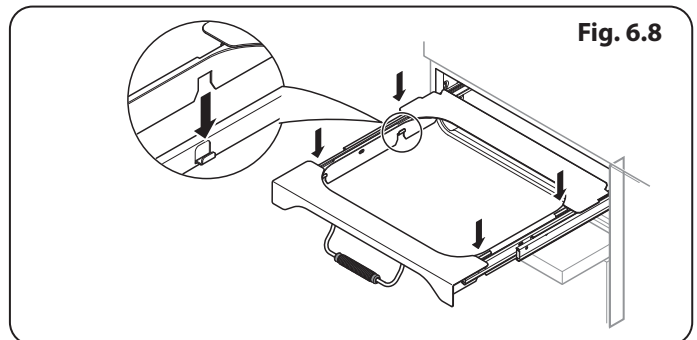

Fig. 6.8
5. Once you have finished, hook the side rails back onto the sides of the chamber. Pull the telescopic rails out and fit the broiler tray onto them, making sure to locate the cut-outs onto the telescopic runner tabs (**Fig. 6.8**).